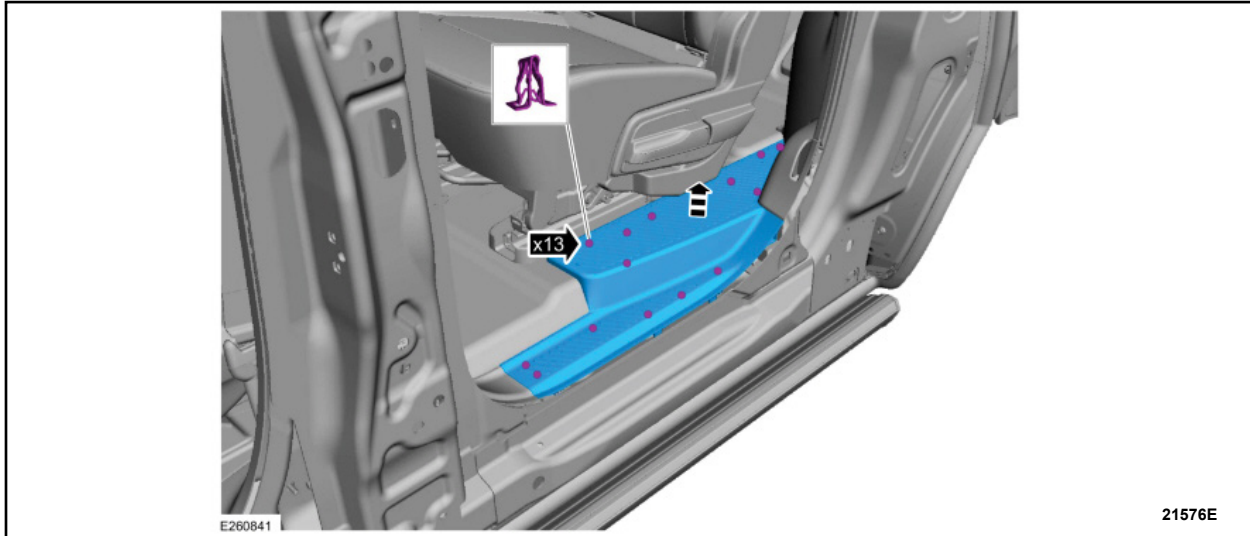

FIGURE 13
5. Release the clips and remove the rear door scuff plate trim panel. See Figure 13.